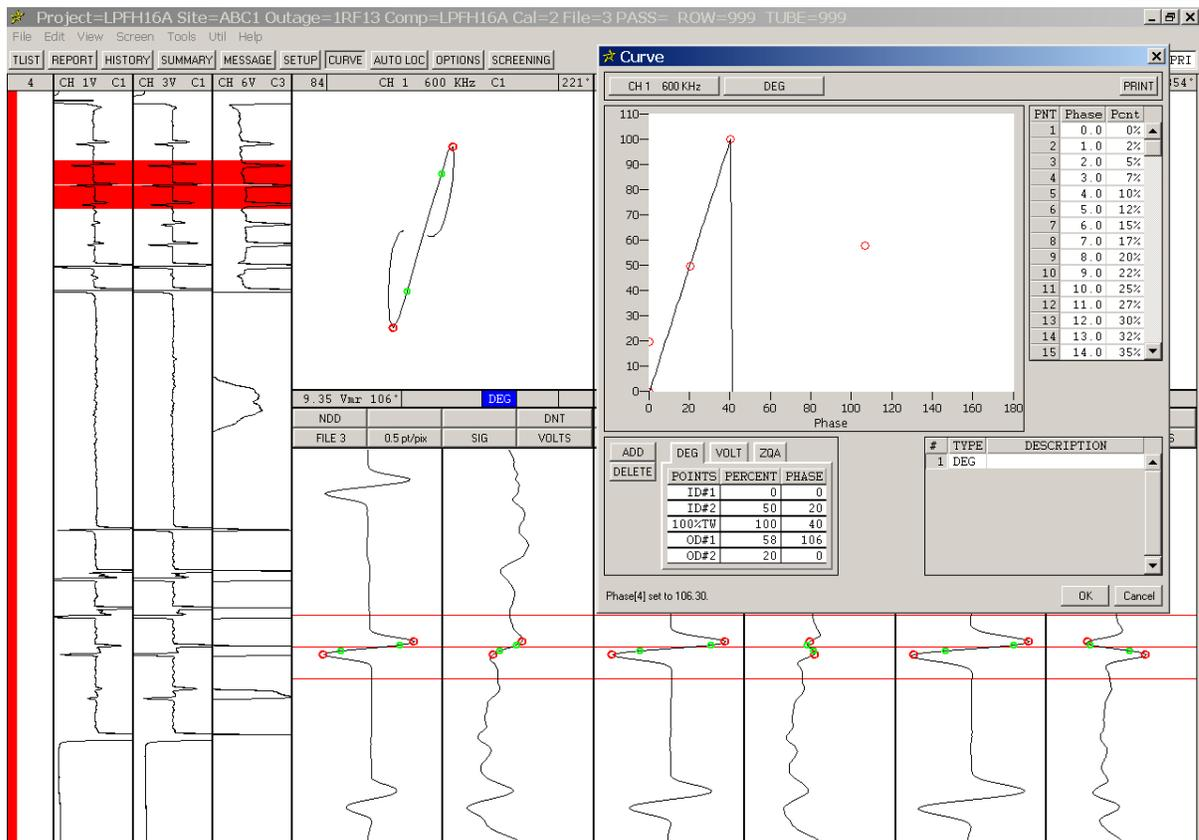

Figure 1-20. Analysis Screen - Curve Dialog - Entering the As-built Depth of a Calibration Flaw
STEP 23: Click in the *Phase* field for *OD#1* on the *DEG* table. The phase measurement ($\sim 106^\circ$) of the **58% FBH** signal for *CH 1* is automatically entered in the field as shown in Figure 1-20.